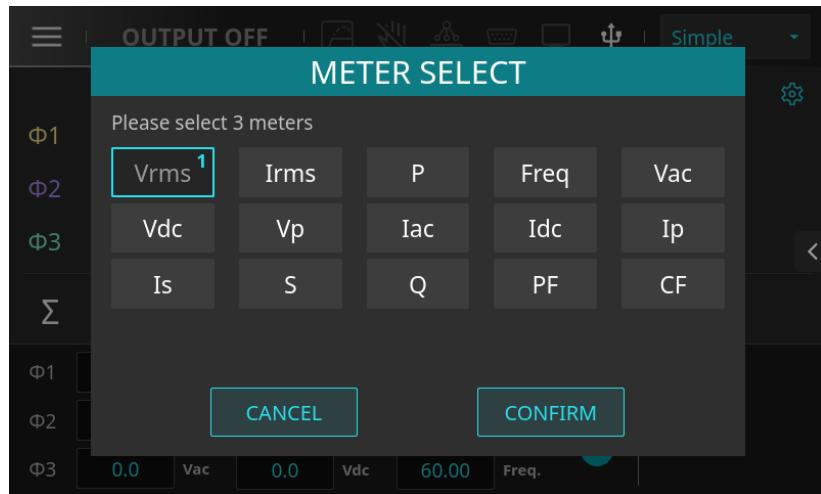

Figure 4-11: Page for deselecting measurement parameters “Irms” and “P”
2. Select the parameters you want to replace, such as "Irms" and "P", as shown in Figure 4-11.